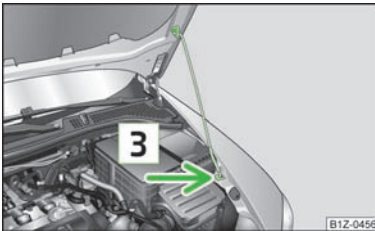

Fig. 135
- Take the bonnet support out of its holder and secure the opened bonnet by inserting the end of the support in the opening **3** » Fig. 135 designed for it.